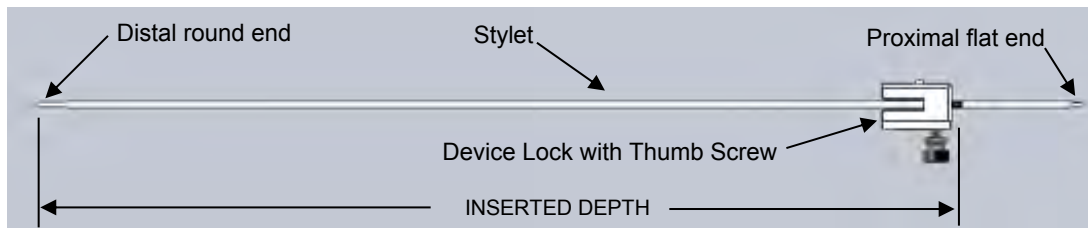
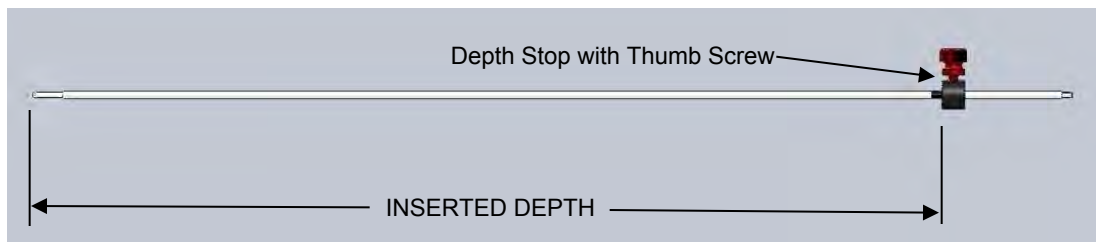

Figure 33: Device Lock attached to the Stylet
Figure 34: Stylet with Depth Stop attached to the Insertion Depth
- Position the Device Lock on the depth mark on the Stylet and tighten the thumb screw. The inserted depth of the Stylet is defined by the proximal side face of the Device Lock to the distal tip of the Stylet. Confirm the length using the Ruler. **See Figure 33.**
- When utilizing the Depth Stop, the inserted depth of the Stylet is defined by the distal side face of the Depth Stop to the distal tip of the Stylet. **See Figure 34.** Slide the Stylet into Device Lock until Depth Stop rests on top of Device Lock. Then tighten Device Lock. Confirm the length using the Ruler.
6. Set the inserted depth on the device from the distal end of the device to the top of the Device Lock using the Ruler. Lock the device to the Device Lock with the thumb screw. Verify the measured inserted depth. Alternately, the bottom of the Depth Stop can be located at the appropriate position and locked into place on the device with the thumb screw prior to inserting the device into the Device Lock. **See Figure 33 and Figure 34** for similar placement of the Depth Stop or Device Lock onto Stylet.